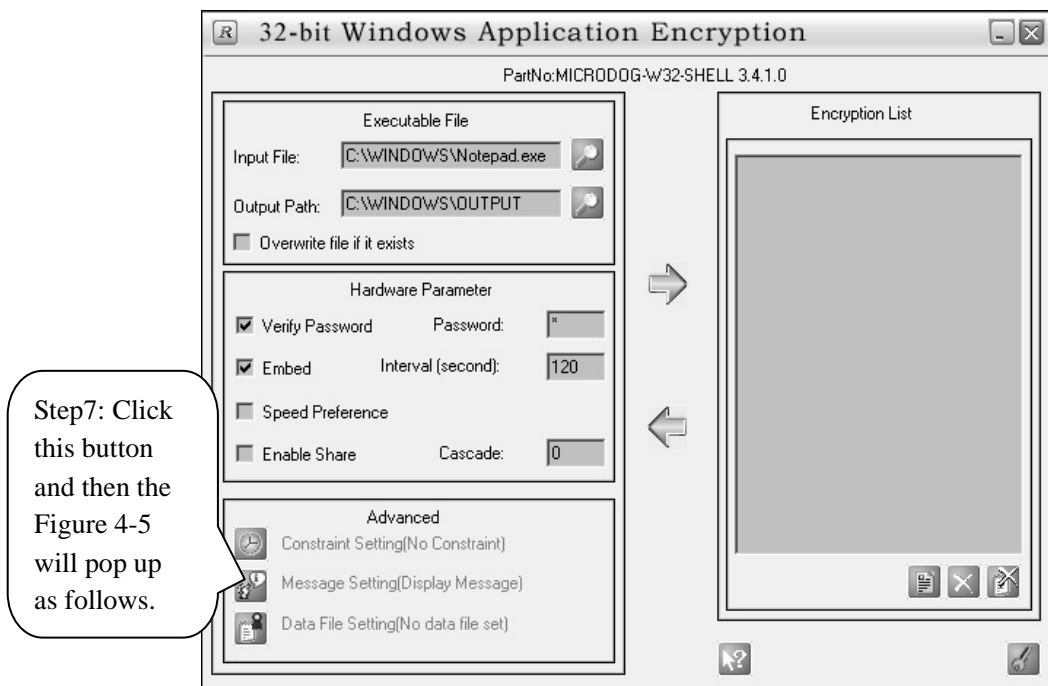

Figure 4-4
4. There are 7 messages to be displayed in different cases. Please specify these messages and the title. The title's length is limited to 60 bytes and the messages' to 100 bytes. Follow step 7, 8, 9, 10, 11 described on the figure 4-4, 4-5 to set the message.